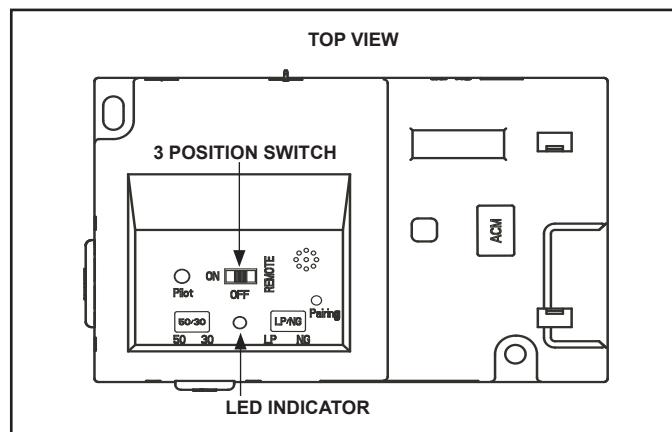

Figure 3.7 IFT-ECM
1. The Electronic Control Module (IFT-ECM) has a three-position ON/OFF/REMOTE selector switch that must be set for proper operation. See Figure 3.7. When changing switch positions, it is important to pause in each position for 1-2 seconds.